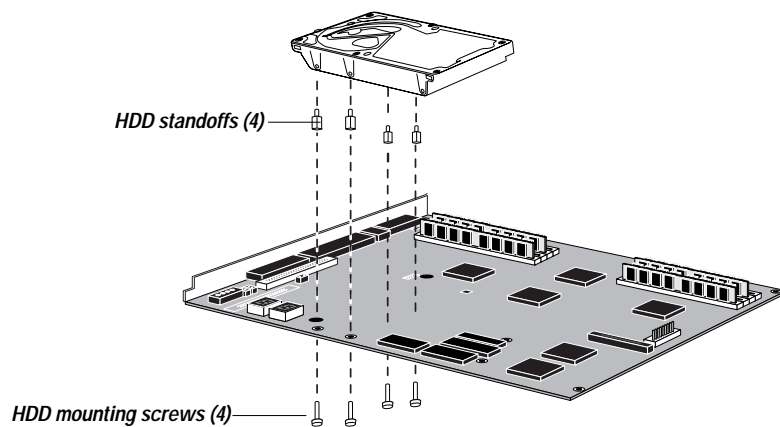

Figure 7-4 Installing the HDD
6. **Supporting the HDD against the Fiery XJ80e, align the four holes in the HDD with the holes in the board and secure it to the Fiery XJ80e board with the four screws (see Figure 7-4).**